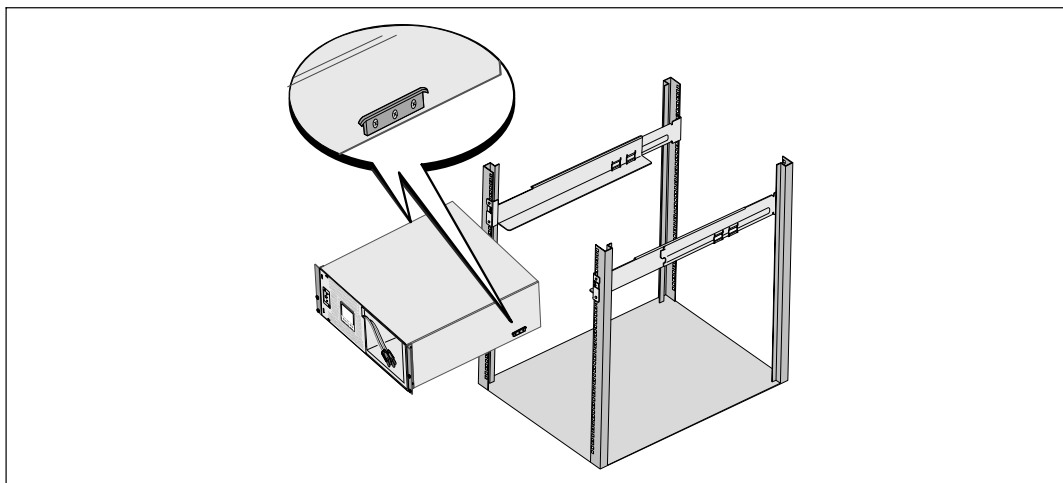

Figure 10. Installing the Cabinet
- Slide the cabinet into the rack (see Figure 10). Repeat Steps 3 through 5 for any additional cabinets.